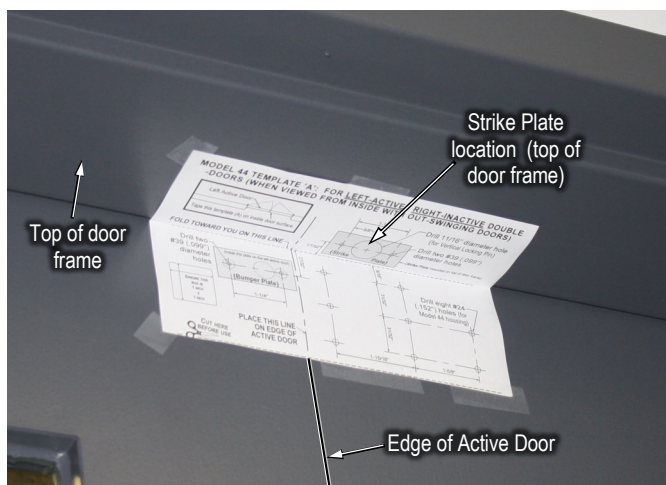

Fig. 5: Tape template to top of door frame (example)
- Select the correct template for the right-inactive or left-inactive door. Fold template as directed on the template (see Fig. 5).